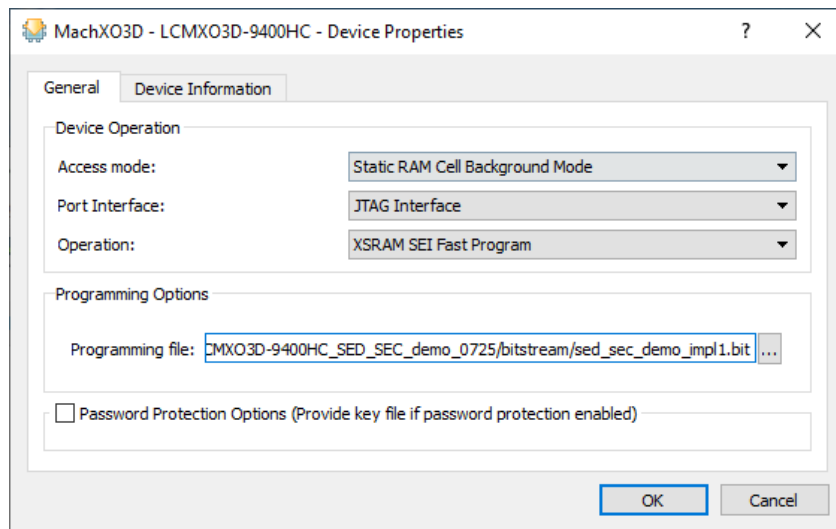

Figure 6.11. Reload Design Bitstream in Background through JTAG
3. Click **OK** (Figure 6.11).
Background Refreshing the Image after Soft Error Detection	Updated Figure 6.11 .